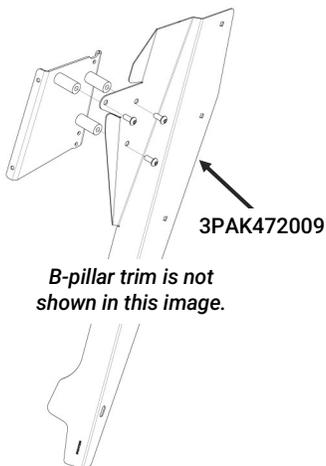

Figure 13
- Locate the passenger Mounting Plate [3PAK472009] and (3) [3X149] button head screws.
- Align the (3) holes in the plate with the (3) standoffs protruding through the B-pillar trim. Loosely secure with the button head screws (Fig 13). The fasteners will be tightened in a later section.